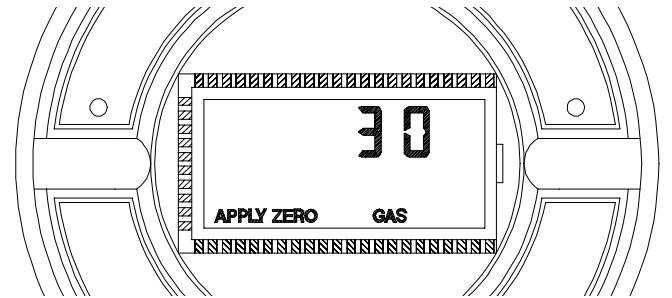

Figure 7. Apply Zero Gas Display
- **APPLY ZERO GAS** Flag (FIGURE 7)